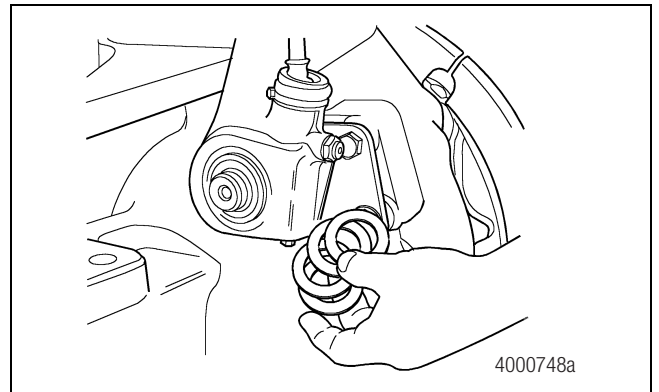

Figure 4.21
4. Remove the slack adjuster shims at the adjuster end of the camshaft. Figure 4.21.